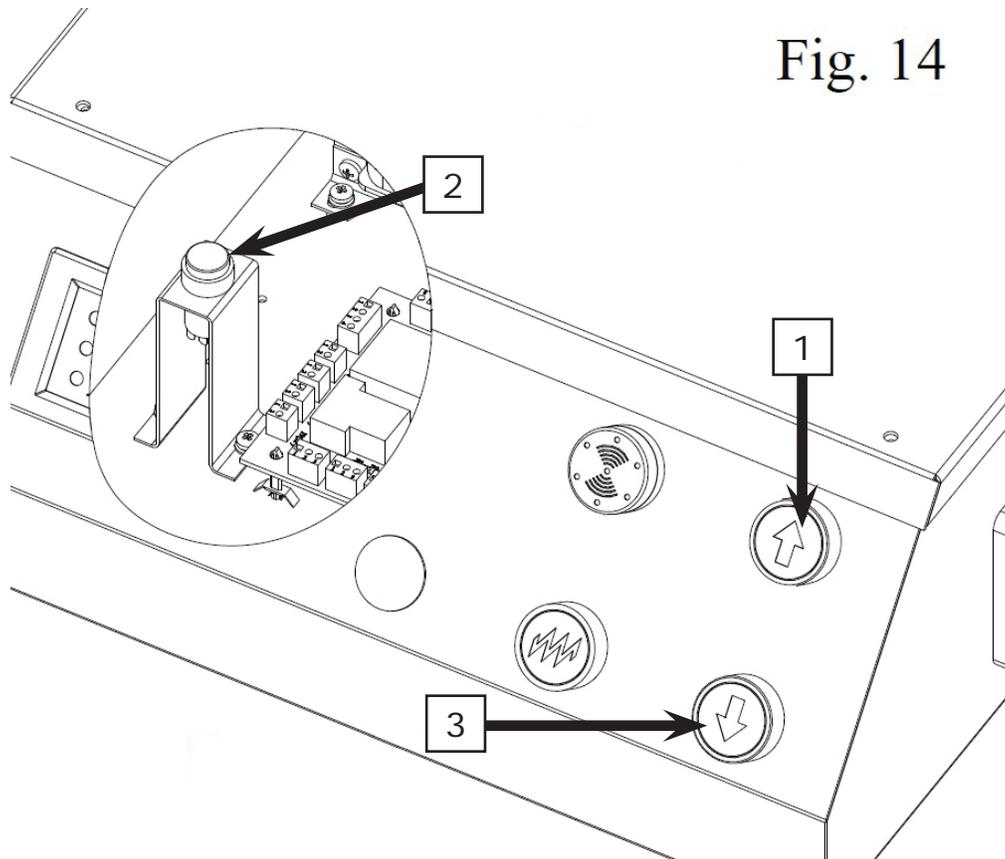

Fig. 14
7.10 Feeding Oil And Bleeding (Ref. Fig. 14)